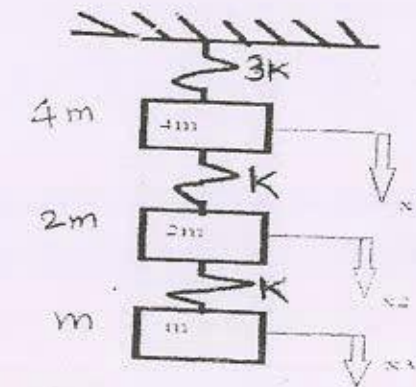

Fig 4b
b) Determine the natural frequencies of the system shown in fig. 4b using Matrix Iteration Method. Solve up to first mode shape. [10]